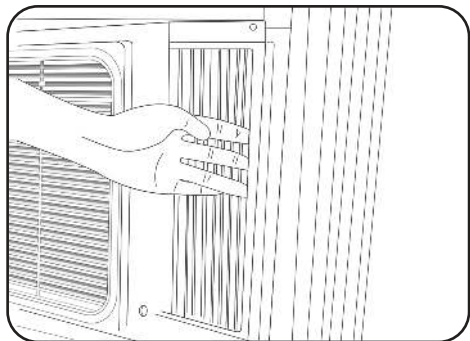

Fig.8
- Once the AC is placed properly, extend both the left and right accordion panels to the width of the window (**See Fig.8**).